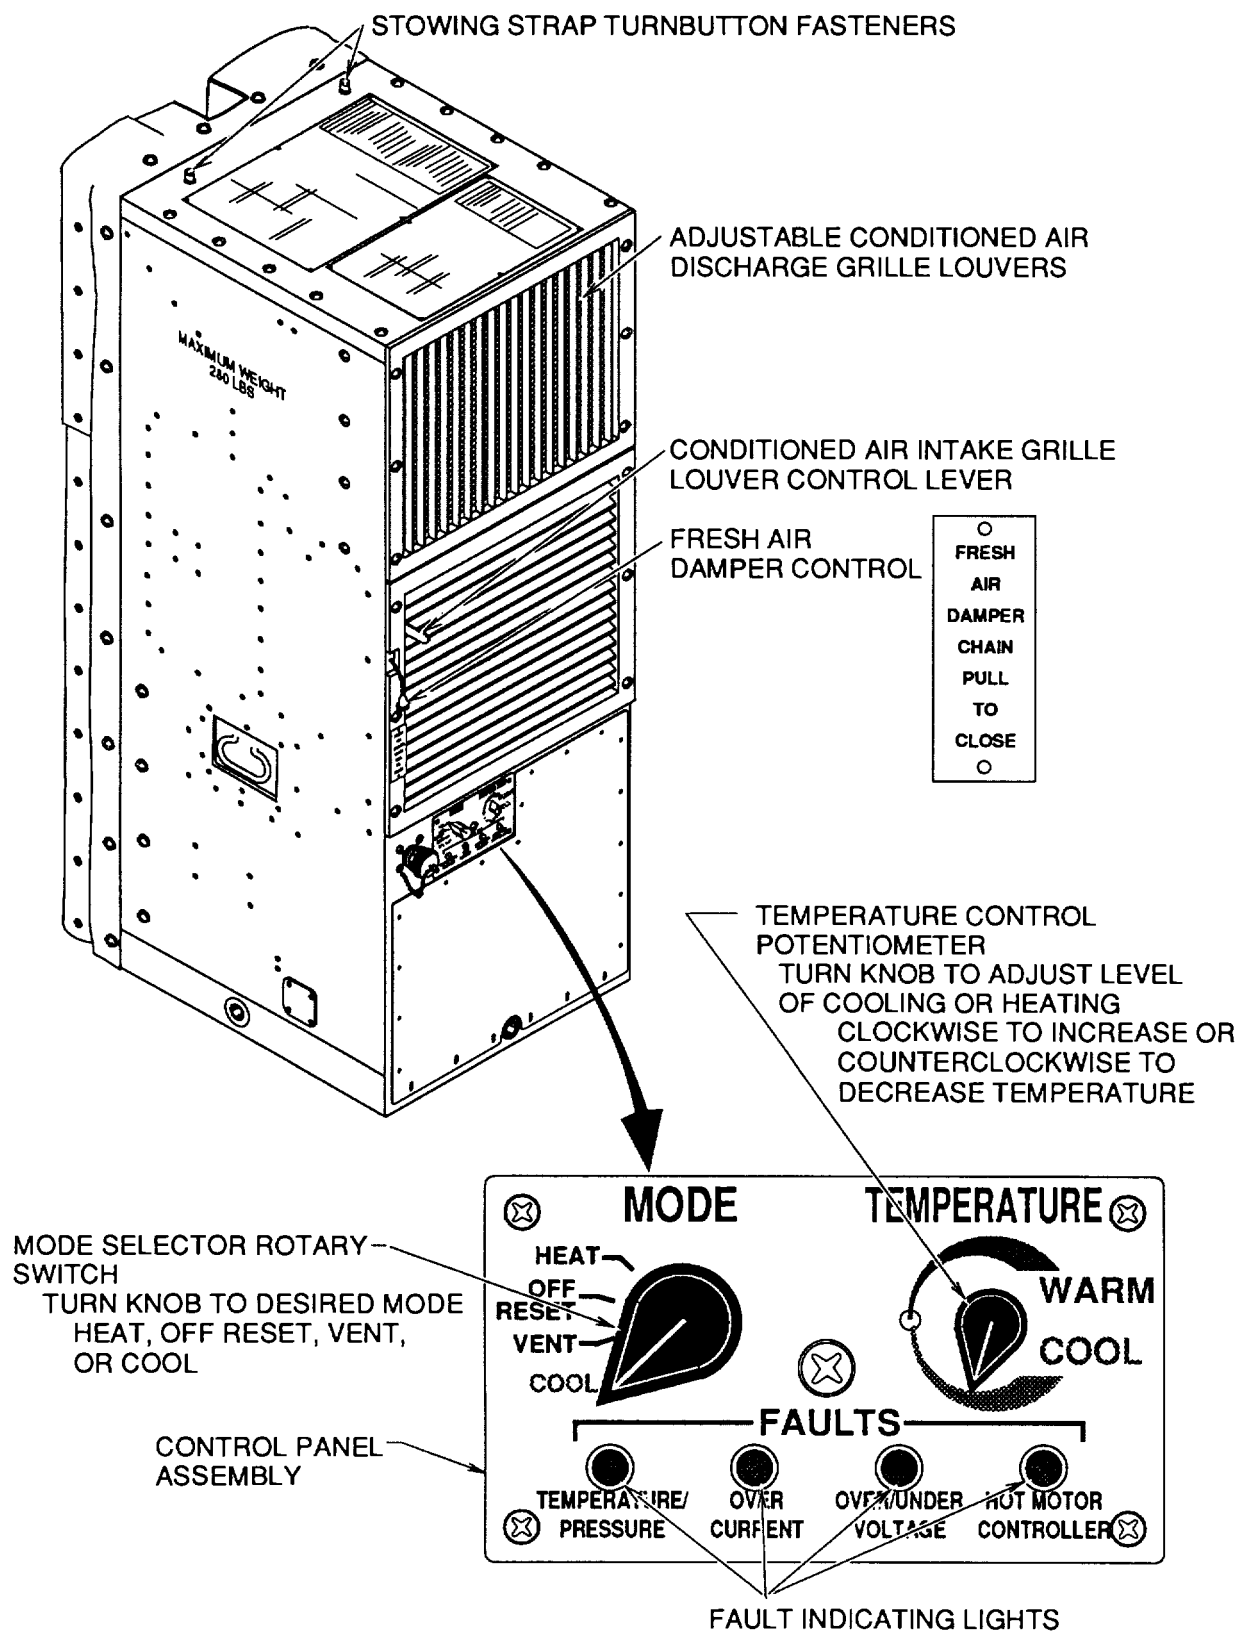

Figure 2-1. Operator's Controls Front
All necessary operator controls are illustrated in figures 2-1 and 2-2. Usage of controls is outlined in General Operating Procedures (paragraph 2-7) and detailed in paragraph 2-8 thru 2-11.
- a. The TEMPERATURE PRESSURE FAULT indicator light (figure 2-1) comes on if the high pressure cutout, low pressure cutout, coil frost, or thermostatic (heater cutout) switch opens. The switches are associated with the units cooling and heating operation and can be an indication of obstructed air flow across the evaporator or condenser coil or improper refrigerant charge.
- b. The OVER CURRENT FAULT indicator light (figure 2-1) comes on if the motor controller is operating with too high amp draw. This can be an indication of a component failure or wiring problem.
- c. The OVER/UNDER VOLTAGE FAULT indicator light (figure 2-1) comes on if the motor controller is operating outside its voltage range. This could indicate controller failure or a problem with input power.
- d. The HOT MOTOR CONTROLLER FAULT indicator light (figure 2-1) comes on if motor controller overheats.